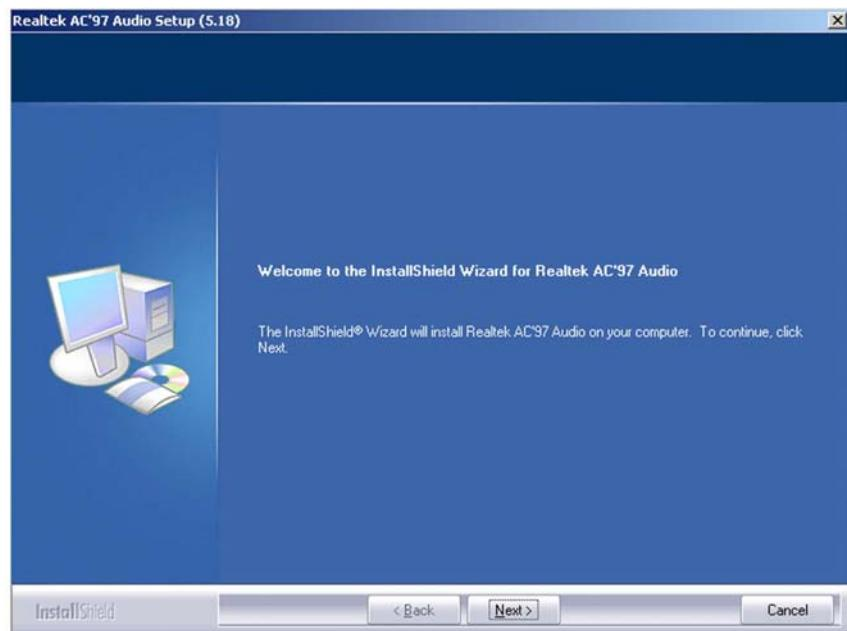
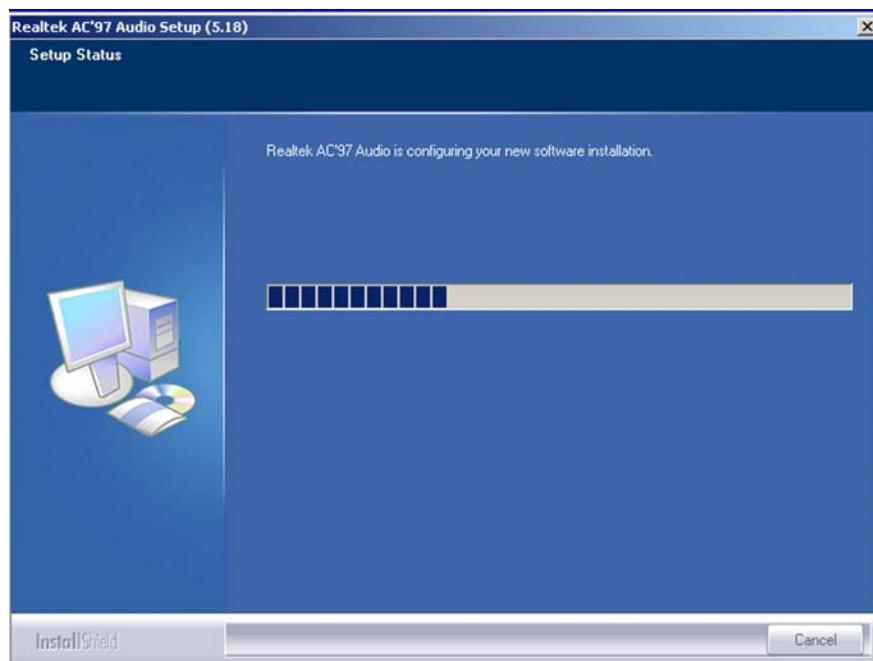

Figure 7-30: AC`97 Audio Driver Welcome Screen
Figure 7-31: AC`97 Audio Driver Software Configuration
Step 6: After the install shield is prepared, the welcome screen shown in **Figure 7-30** appears. To continue the installation process, click the “NEXT” button. The install shield starts to configure the new software as shown in **Figure 7-31**.